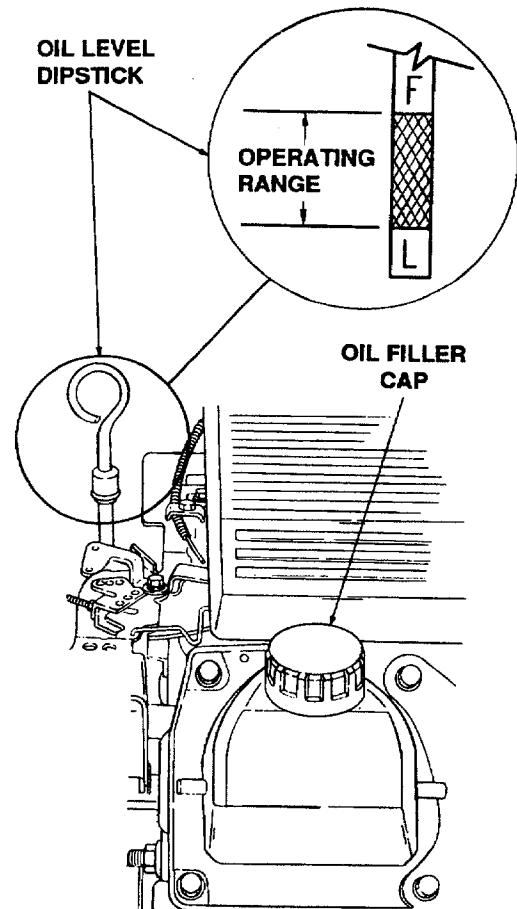

Figure 19
level. Close monitoring of the oil level during the first 10 hours of operation of the engine is especially important. Before checking the oil level, clean the area around the oil level dipstick to prevent debris from entering the crankcase. Always keep the oil level between the "FULL" and the "LOW" marks on the dipstick. (See Figure 19.) When checking the oil level, engine must be cold, the dipstick must be withdrawn and wiped clean, then inserted all the way and withdrawn for a true reading.
3. Remove the oil filler cap from left valve cover and **SLOWLY** pour in oil. Fill the crankcase until the oil level reaches the "FULL" mark on the dipstick. (Refer to Figure 19.)
3. Remove the oil filler cap from left valve cover and SLOWLY pour in oil. The oil capacity is approximately 4 pints. Fill the crankcase until the oil level reaches the "FULL" mark on the dipstick. (Refer to Figure 19.)